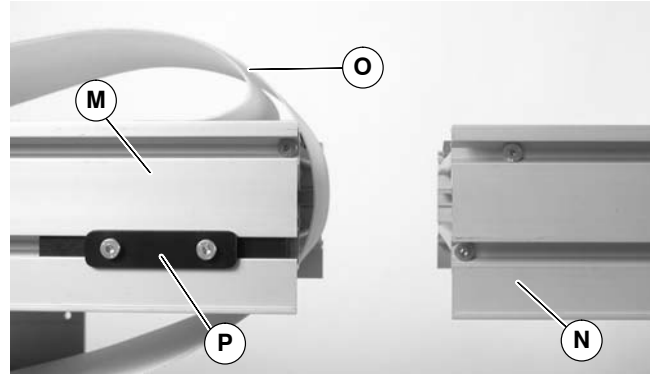

Figure 4
1. Locate conveyor sections (M Figure 4)